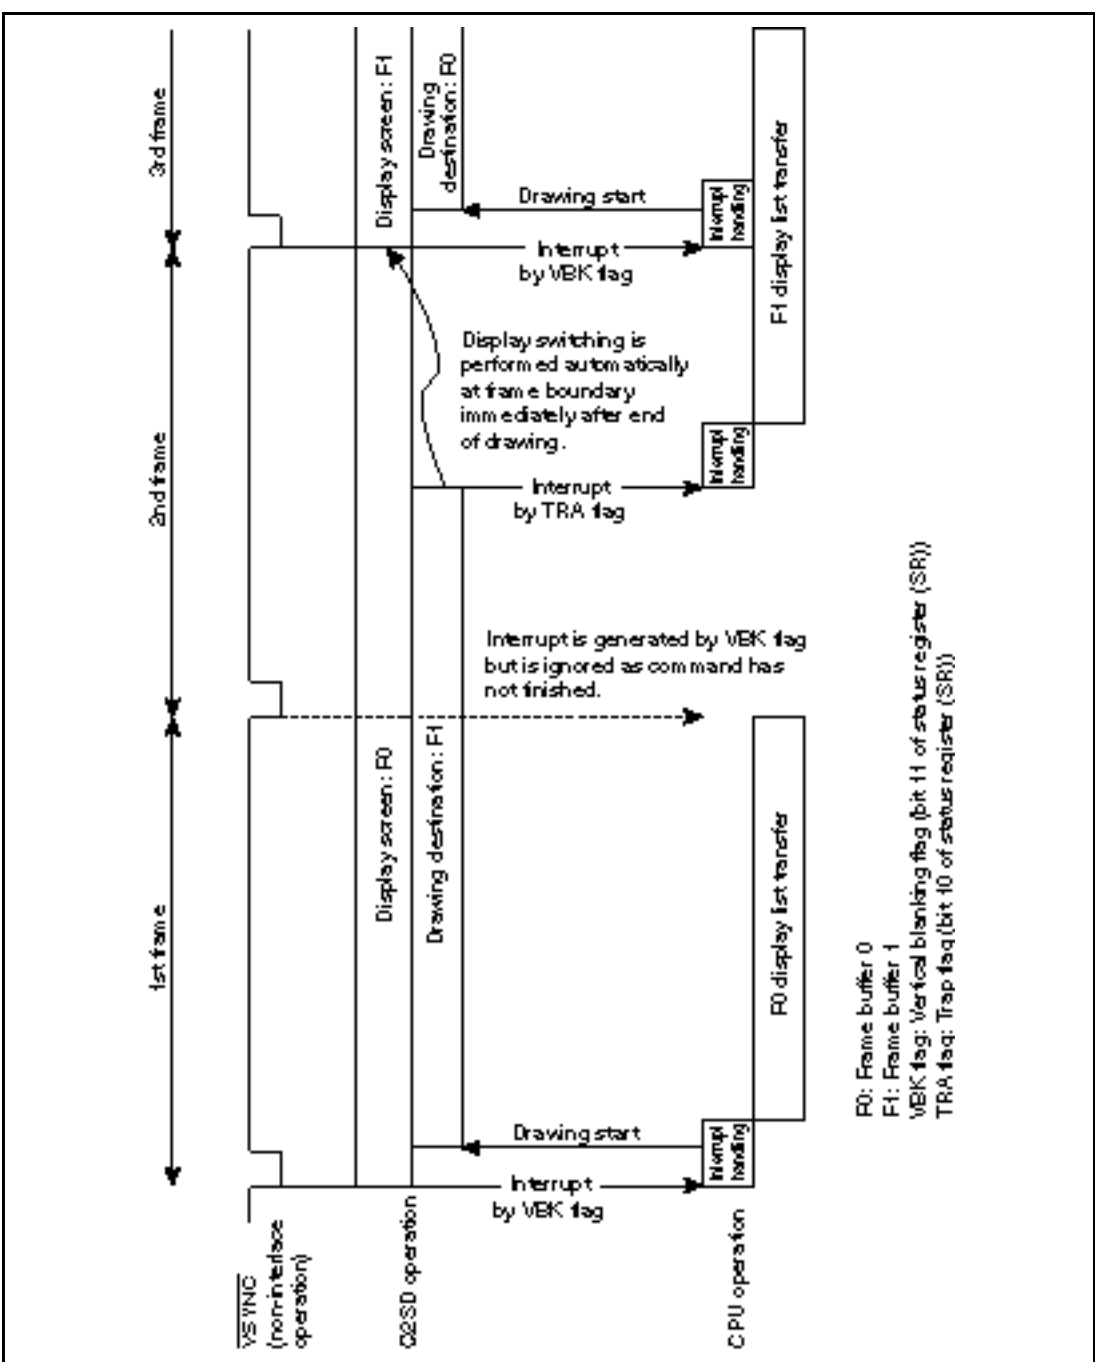

Figure 3.7 Operation in Auto Rendering Mode
**Auto Rendering Mode:** In auto rendering mode, display switching is not performed until execution of a TRAP command is completed. If drawing does not end within one frame, it is continued without interruption. An outline of operation in this mode is shown in figure 3.7.